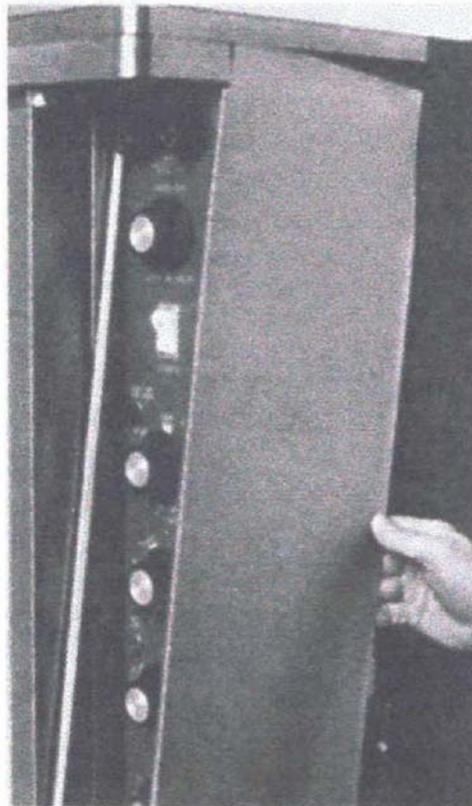

Figure 6-2. Control Cover
3. Pull control cover forward from bottom and rotate upward. See Figure 6-2.